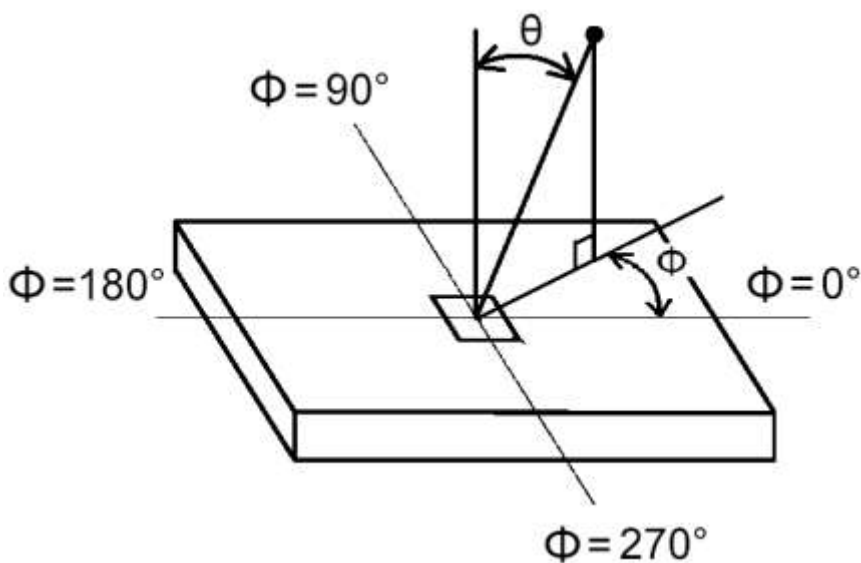

Fig. 4 Viewing Angle
5. Viewing angle is the angle at which the contrast ratio is greater than 10. The angles are determined for the horizontal or x axis and the vertical or y axis with respect to the z axis which is normal to the LCD surface. For more information see **Fig. 4**.